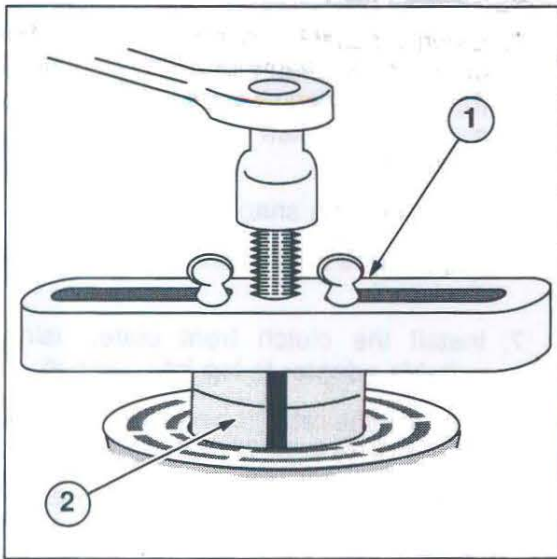

FIGURE 9-58
7. Remove the pulley, using a universal puller as shown. Ensure the lip on the adaptor jaws are located in the groove on the internal diameter of the pulley, Figure 9-58.